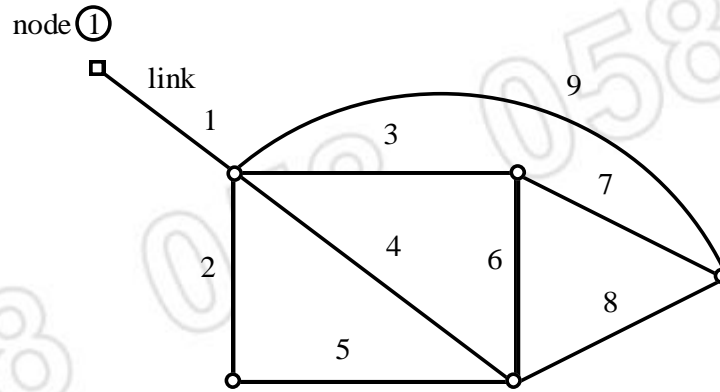

Fig. 2
8. For the network as shown in fig. 2, prepare node to node incidence matrix and determine the number of possible trees by using graph theory. Also sketch the trees in which links 2 and 3 are present always. 14